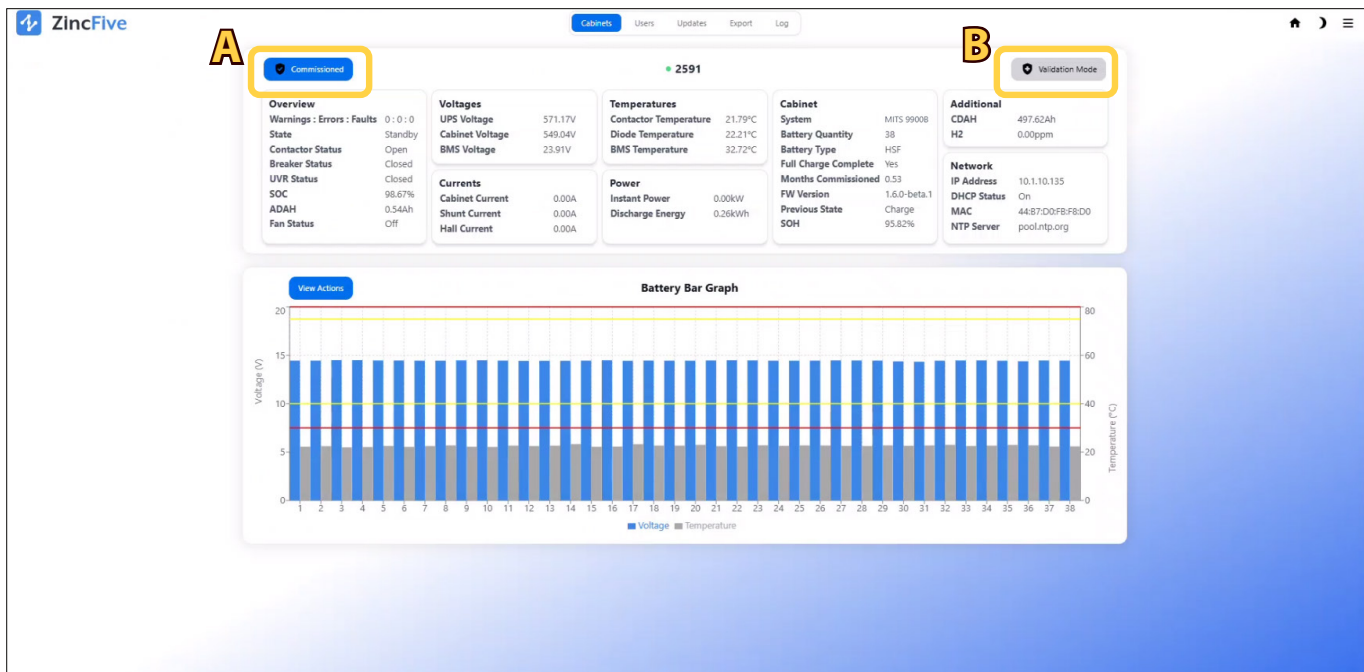

Figure 36- Cabinet Details page. A- Commissioned button, B- Validation Mode button
1. Toggle the **Commissioned** status button (Fig. 36-A) between ON and OFF. A blue background color indicates ON.